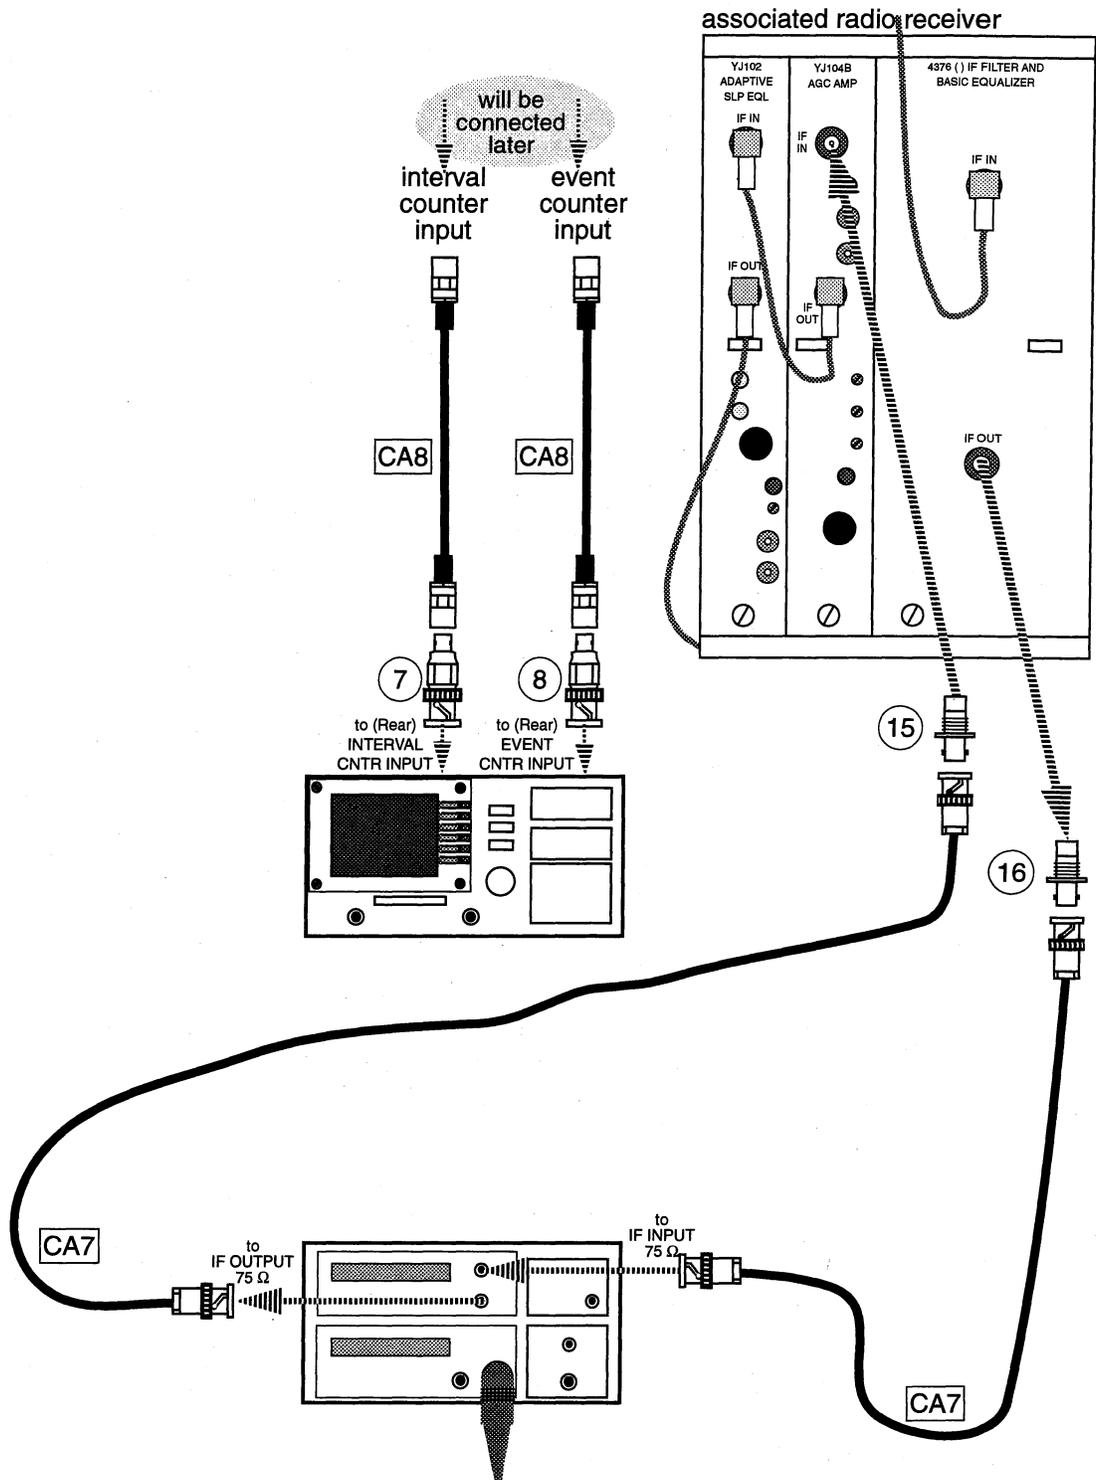

Figure 21. Over-the-Air Propagation Distortion
- 2 Connect the test equipment as shown in Figure 21.
NO - Recheck the test connections of Figure 21.